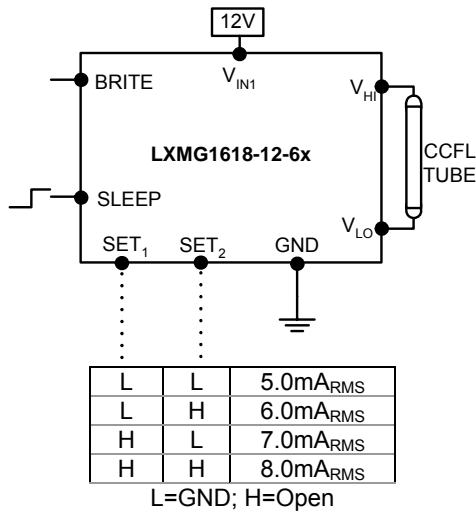

Figure 2 – Max Output Current (SET1 and SET2 Inputs)
- Use the SET1 and SET2 (see Figure 2) inputs to select the desired maximum output current. Using these two pins in combination allows the inverter to match a wide variety of panels from different manufacturers. Generally the best lamp lifetime correlates with driving the CCFL at the manufactures nominal current setting. However the SET1 and SET2 inputs allow the user the flexibility to adjust the current to the maximum allowable output current to increase panel brightness at the expense of some reduced lamp life.